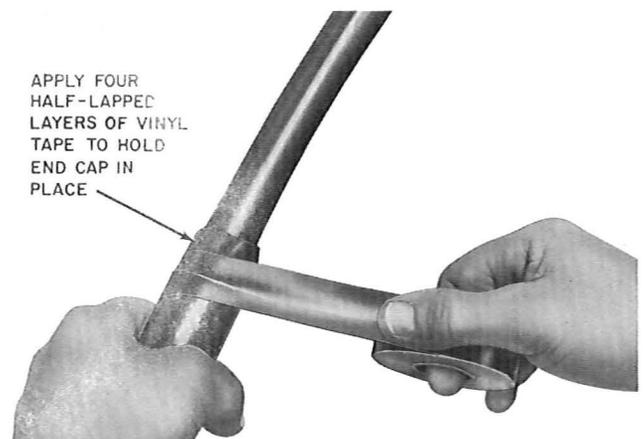

Fig. 11—Taping End Cap in Place
- (h) Secure the E Plastic Cap to the sheath using four half-lapped layers of vinyl tape (Fig. 11). Start taping below the top of the cap, and continue over the cable sheath.